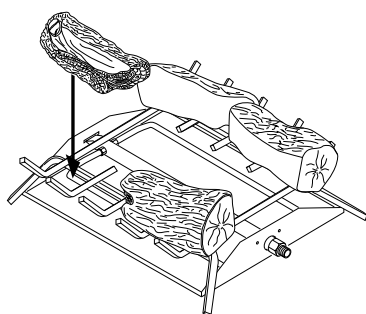

Figure 9 - Placement of Bottom Logs
2. Place one of the bottom logs on the grate and slide forward against the front grate bars. Repeat for other side (see Figure 9).